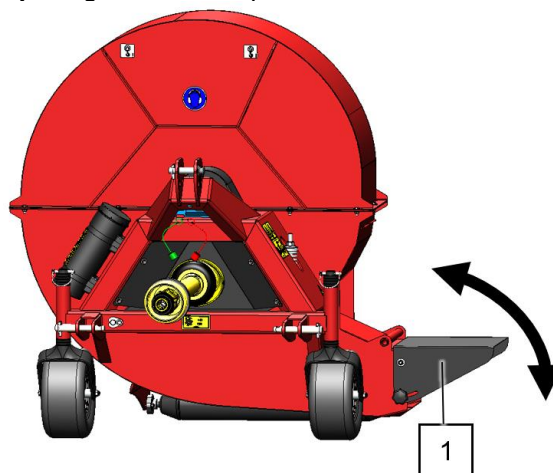

Fig. 10
Instead of the reverse spout, the supplied outlet flap can also be used ((1) Fig. 10). Unlike the reverse spout, airflow is now only possible on one side of the machine. However, the airflow in the vertical plane can be regulated by adjusting the outlet flap.